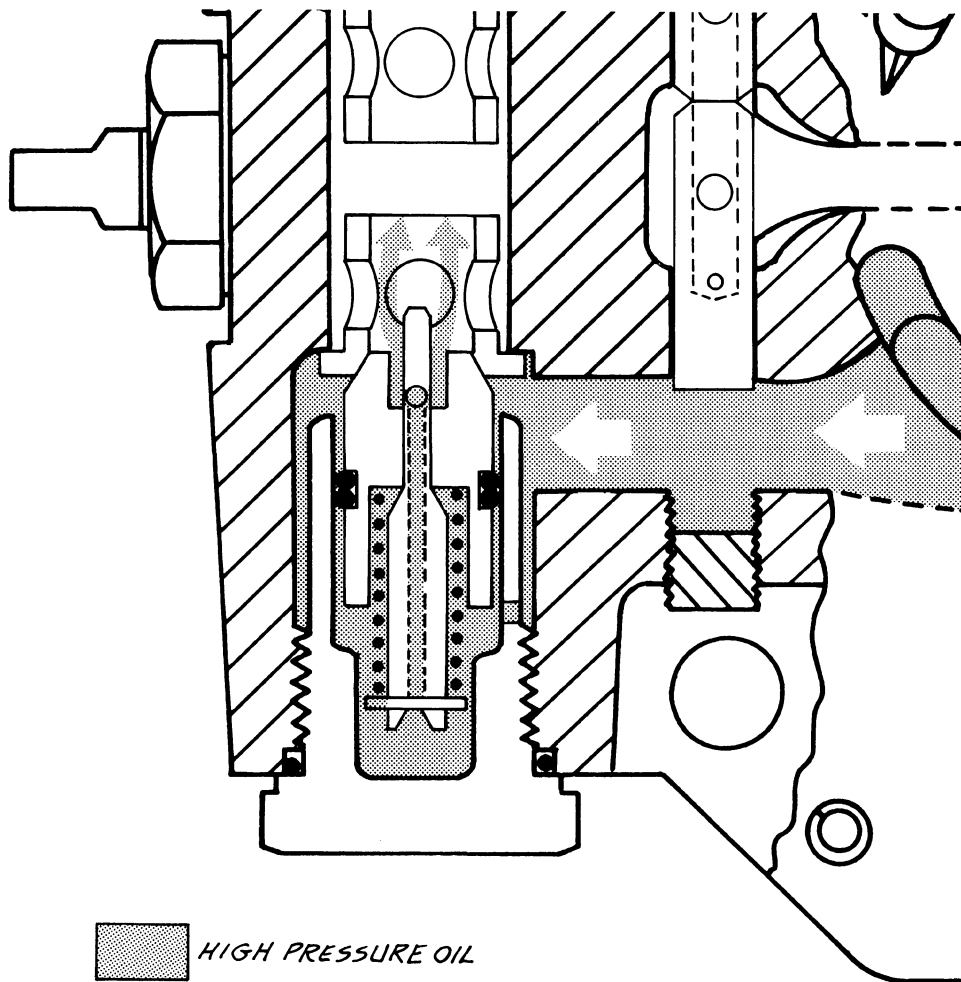

FIGURE 11
- (3) As pressure increases in the **high** side of the closed loop, the valve spool is forced in toward the seat, Figure 11. If pressure in the high side equals or exceeds the relief valve setting (4,350 psi), a small port in the spool opens. This hole is **larger** than the hole in the cartridge.